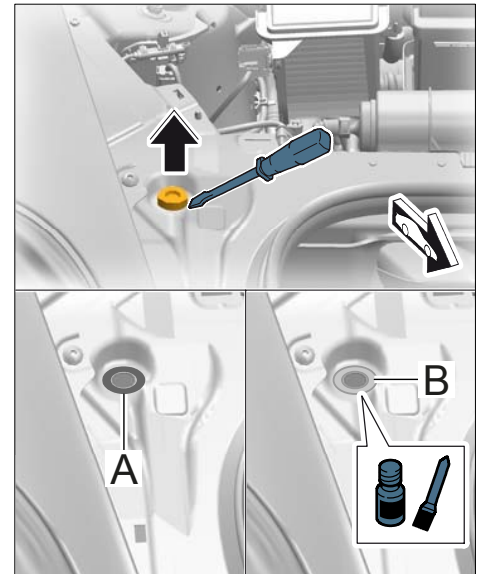

Figure 8
- 11.1 Remove stopper (painted in vehicle color) from the opening on the fender joining plate and dispose of it ⇒ *Figure 8 -arrow-*.
- 11.2 Touch up any missing top coat paint ⇒ *Figure 8 -A-* close to the stopper with a touch-up stick in vehicle color ⇒ *Figure 8 -B-*.